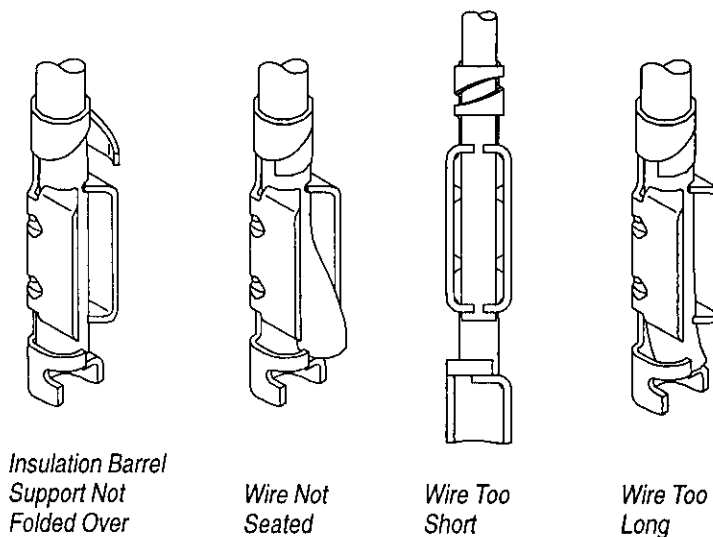

Figure 7
5. TERMINATION INSPECTION (Figure 7)
Figure 7 illustrates properly and improperly terminated contacts. Each view provides a brief description of the termination. Inspect each termination as follows: